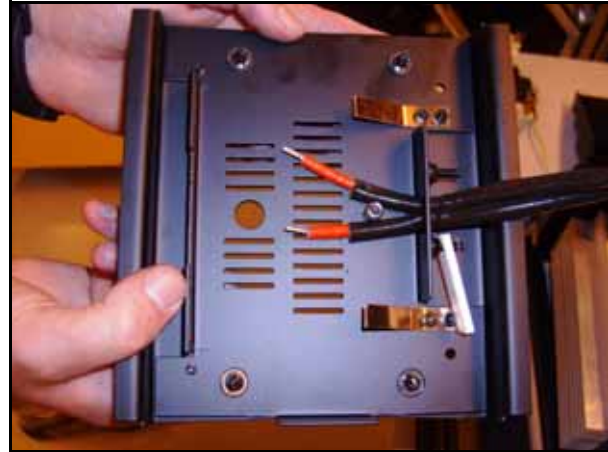

Figure 58
63. See Figure 58. Hold the new rear lampholder assembly (P/N 55205111) supplied in the Upgrade Kit up to the back of the head and thread the lamp leads behind the rear lampholder plate towards the lampholder terminals. You may need to release and remove the rear lampholder plate temporarily (as shown in the photo) to make it easier to pass the leads behind it.